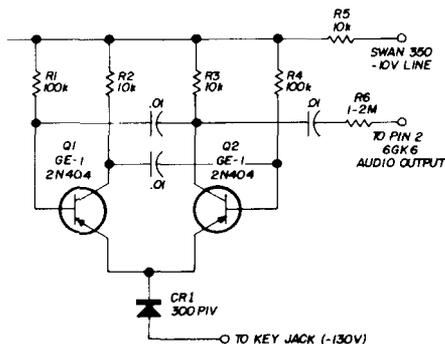

fig. 1. Simple CW monitor for the Swan 350.
The memo-key is shown in **fig. 1**. The circuit detects the presence of tones of various lengths that have been pre-recorded on tape. These tones, which may be the recorded output of a code oscillator, side-tone from a receiver or keyer, or even a whistle, are converted to
The memo-key may be operated from batteries or a power supply, as shown in **fig. 1**. Current drain is low, because the high-current output switch is not connected across the power supply. When driving a relay, a diode should be placed across the relay coil to suppress high-voltage spikes. The value of capacitor C4 may have to be changed slightly when switching currents other than 100 mA. The discharge time constant of the circuit is set for switching 100 mA; any load less than 100 mA slows the switching action considerably. In fact, when switching a low-current RTTY load, you may wish to eliminate C4 entirely, although sensitivity will decrease.
Two modifications may be necessary if you wish to use the memo-key with a tape deck. A level control should be connected across the deck output, then to the memo-key input. Also, no transformer will be needed at the input (T1 in **fig. 1**).
**fig. 1.** Memo-key schematic. Circuit is a simple electronic switch that will handle loads to 40 volts at 100 mA. Observe polarities when using suggested power supply or batteries.